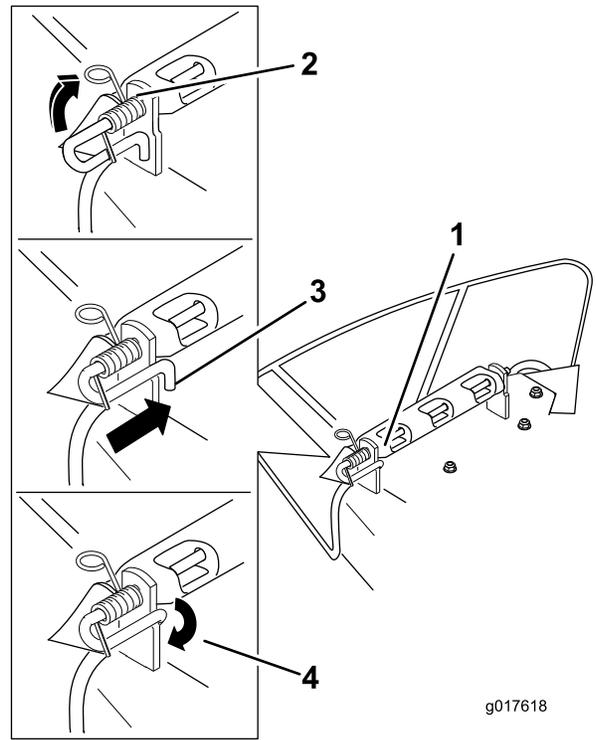

Figure 62
- Lift the loop end of the spring and place it into the notch on the deflector bracket (Figure 62).
- Secure the rod and spring assembly by twisting it so the short end of the rod can be placed behind the front bracket welded to the deck (Figure 62).